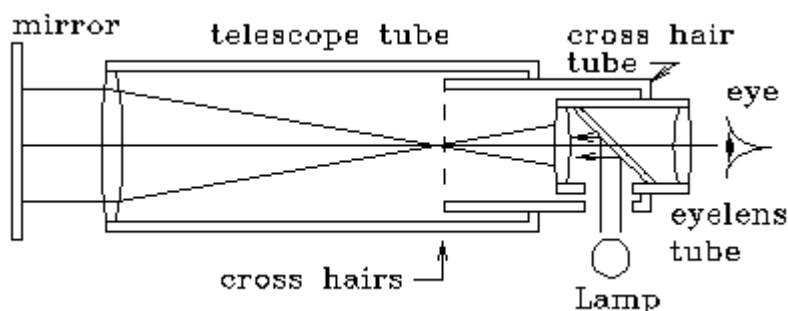
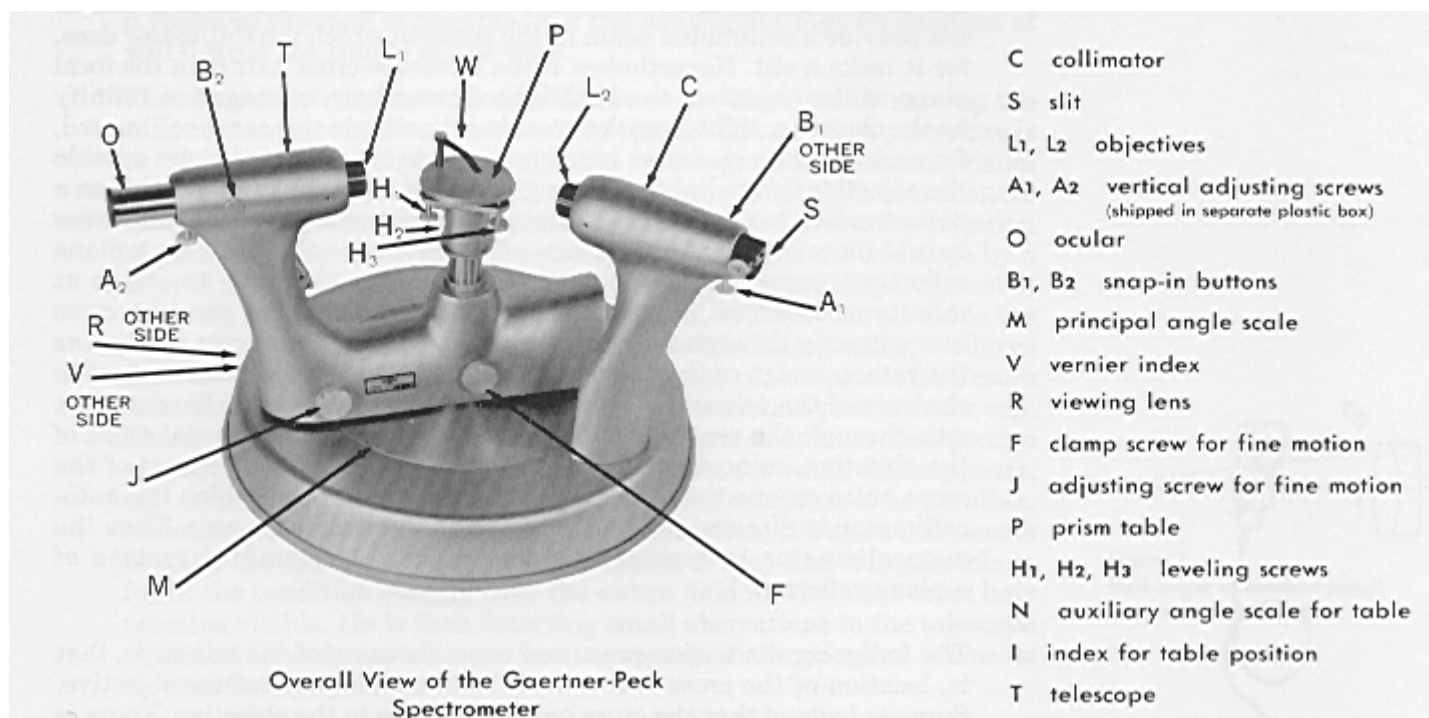

Fig. 1 Telescope with Gauss eyepiece autocollimator.
Fig 3. The Gaertner-Peck spectrometer.
The Gauss Ocular: The spectrometer telescope (T in Fig 3.) contains a Gauss ocular (eye-lens) which may be used as a self-collimator in several parts of the experiment. This ocular has a partially silvered mirror at a 45° angle to the optical axis, as shown in Fig. 1. By rotating the ocular tube, a hole in its side may be lined up with a hole in the crosshair tube, allowing light to be admitted to the mirror through these holes.
A special illuminator may be attached directly to the ocular tube (O) directly (at O), and positioned for best illumination with two set screws. The light from this illuminator is reflected back from the crosshairs, the rest continues to the objective lens L1 and out of the telescope, as shown in Fig. 1.
e) Now check the collimator by the Gauss ocular self-collimation procedure, as shown in Fig. 1. The face of a prism on the prism table serves as a "mirror" to reflect the light back into the collimator. Rotate the prism table until you see the reflected crosshair image. Move your eye sideways to check for parallax between these images. If you see parallax, consult your instructor who will assist you in removing it. (The adjustment is delicate, and requires a jeweler's screwdriver.)
(2) CHECK THE COLLIMATOR AND SLIT.